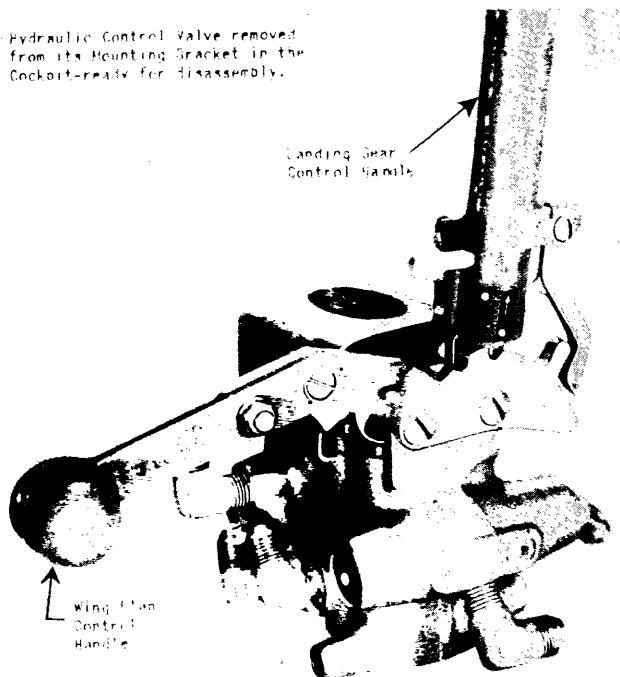

Figure 127 - Hydraulic Control Valve
b. To Disassemble the Hydraulic Control Valve. - Disconnect all hydraulic lines to the valve and remove the valve from its mounting bracket on station No. 5 bulkhead (figure 127) and proceed as follows: